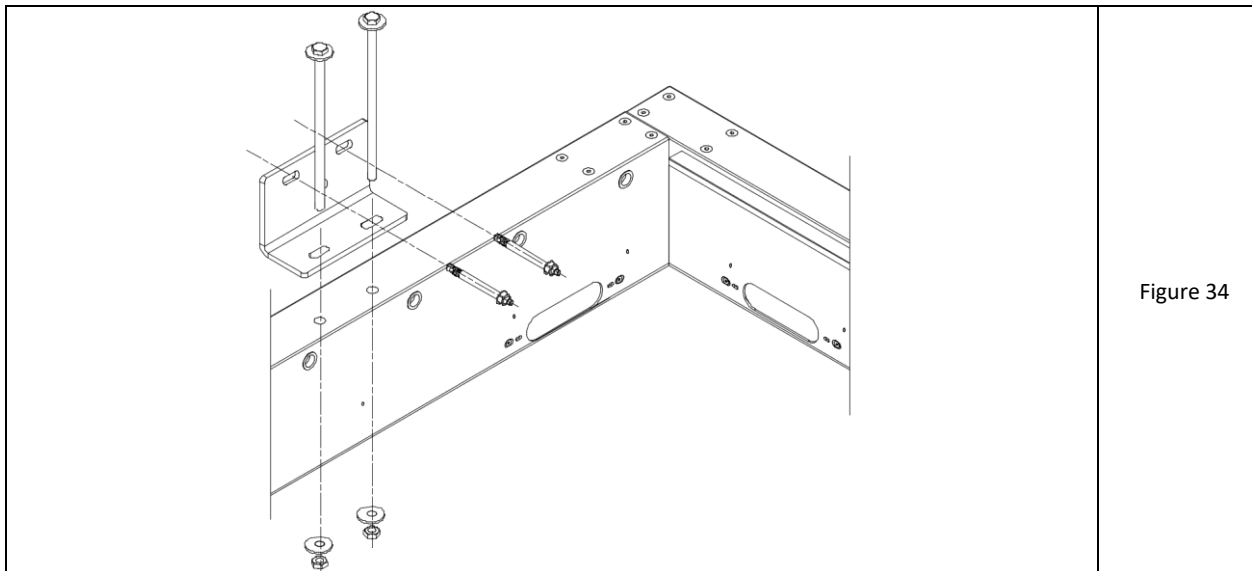

Figure 34
17. Stud the outer slip rings into the large holes for the blade's axis on the lengthwise beams (fig. 34).
22. Put the wall brackets on the anchors and fasten them to the beams with M12x240 bolts with a washer and an M12 self-locking nut (fig. 34). Fasten the brackets to the anchors. Check the leveling of the beam.